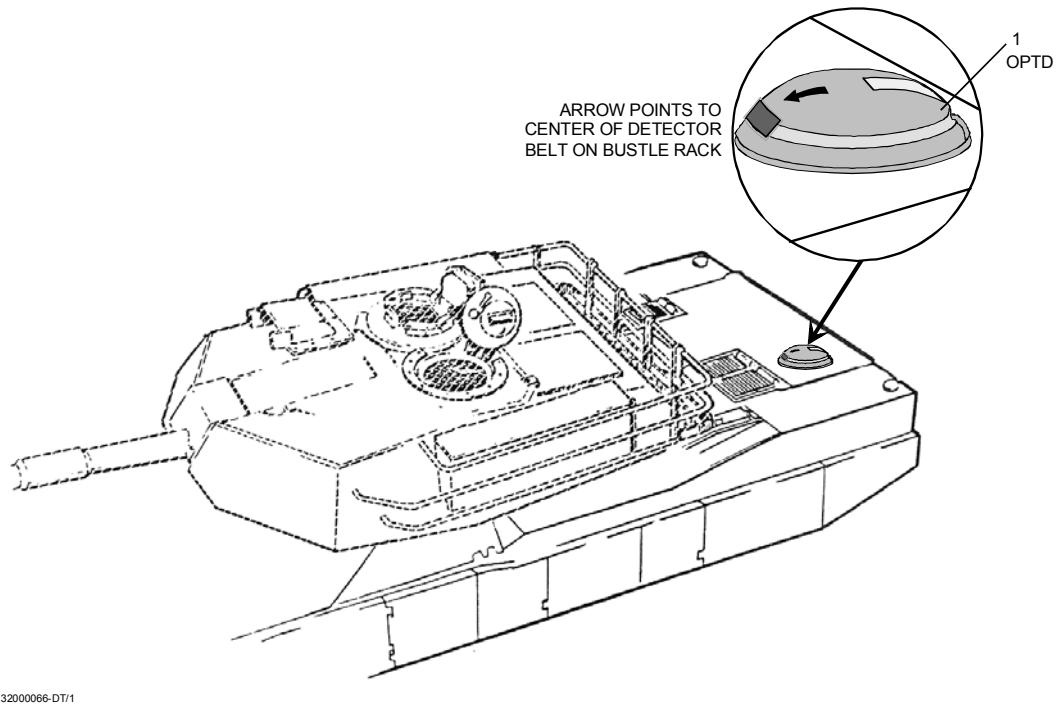

Figure 2-49. M1A1/M1A2 Optical Turret Positioning Device (OTPD) Location.
- d. Position the OTPD on the left rear of the tank so the Infrared Transmitter Window points to the center of the detector belt on the bustle rack as shown in Figure 2-49.